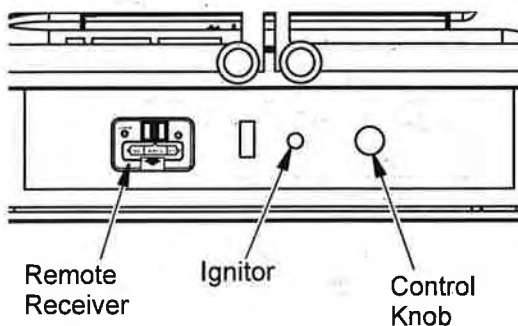

Figure 19 - Heater Control Locations
4. Push in control knob slightly and turn clockwise ↻ to the OFF position (see Figure 19).
5. Wait five (5) minutes to clear out any gas. Then smell for gas around heater and near the floor. If you smell gas, STOP! Follow "B" in the safety information above. If you do not smell gas, go to the next step.
6. Push in control knob slightly and turn counterclockwise ↺ to the PILOT position. Press in control knob for five (5) seconds.